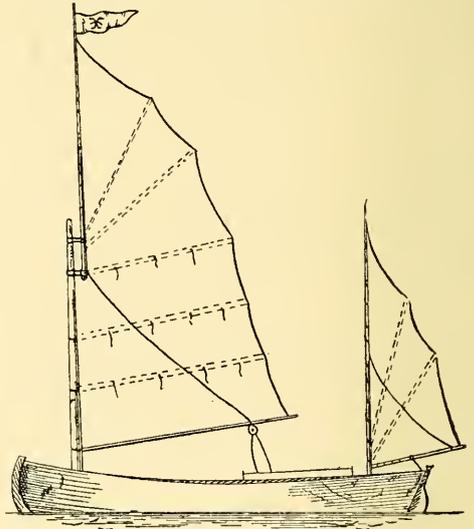

FIG. 272.
**Gunter Rig.**—A rig for boats much recommended some years ago. A sliding gunter rig with battens has been in use since 1876, as shown in Figs. 272 and 273. A is the mast; B, topmast or yard; C and D, irons with a sheave at C; E, connecting rod; F, halyard fast to B, and rove through a sheave in the masthead; G, a